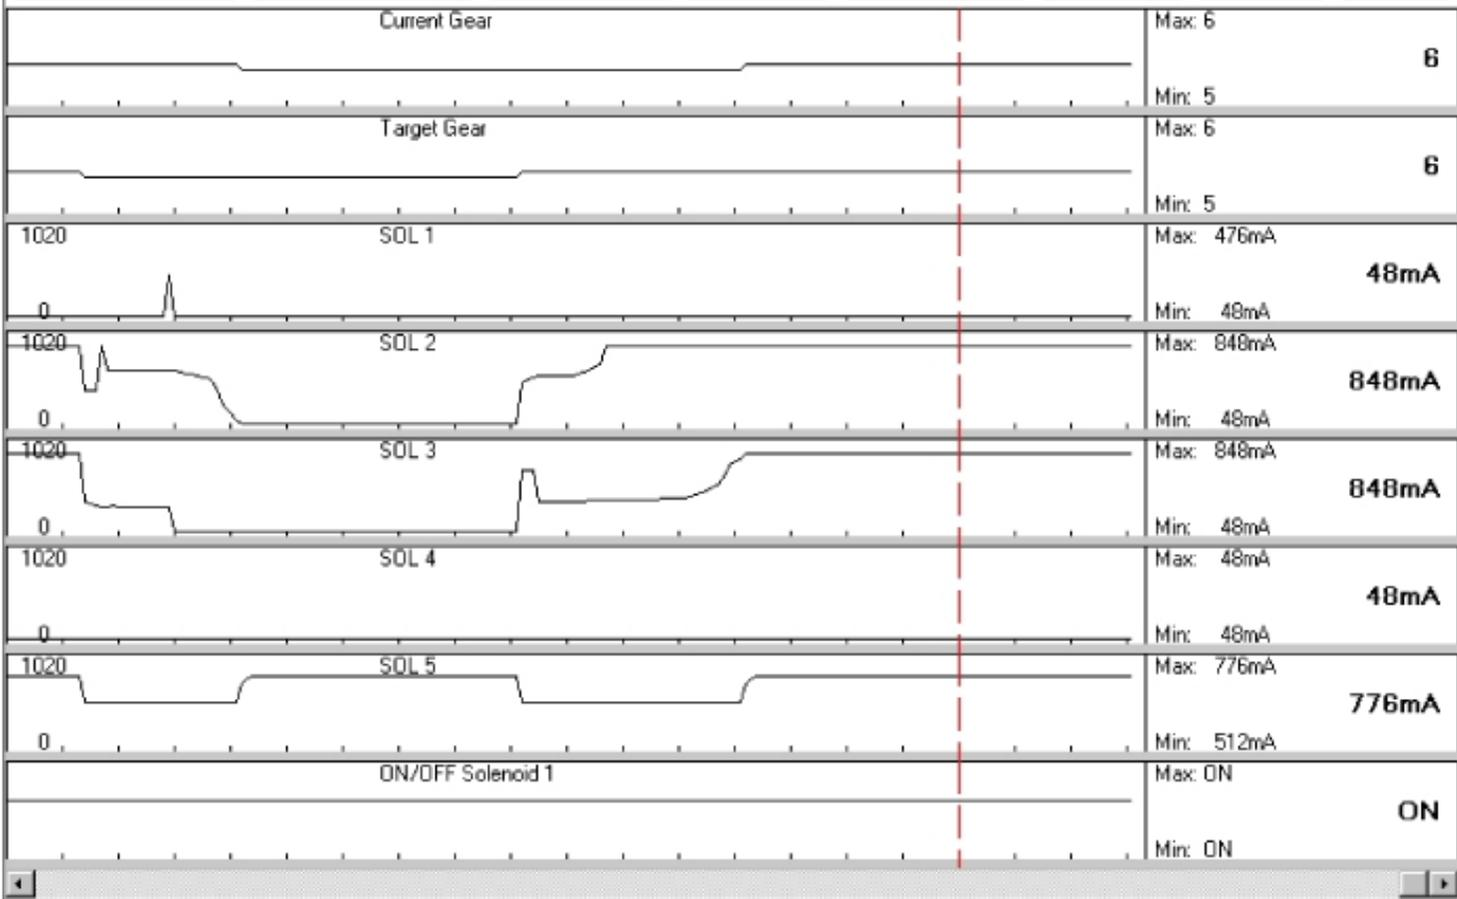

Fig.2
- Fig 2) Solenoid valves in 6th gear-graph